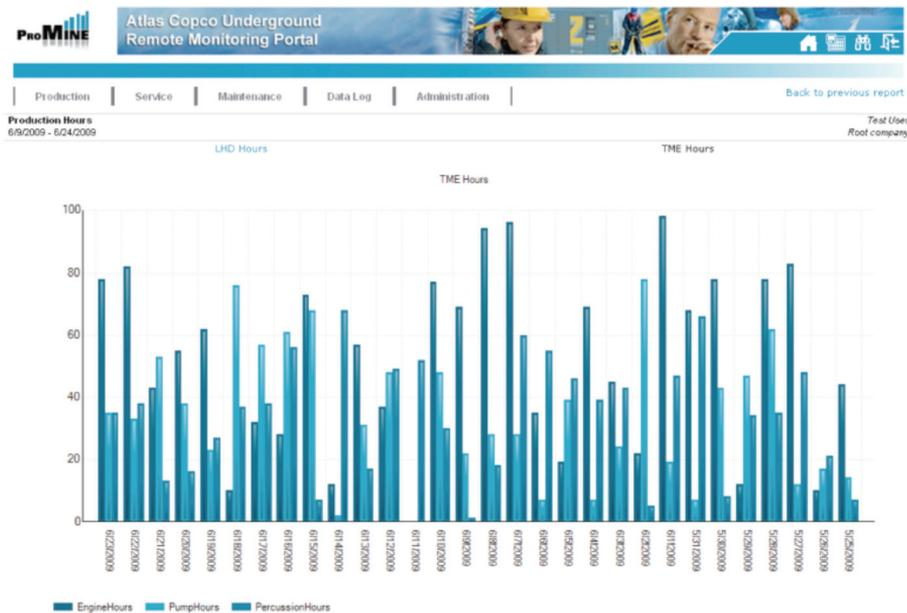

Figure 3. Machine production hours
- Operational hours (refer Figure 3)